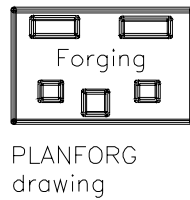
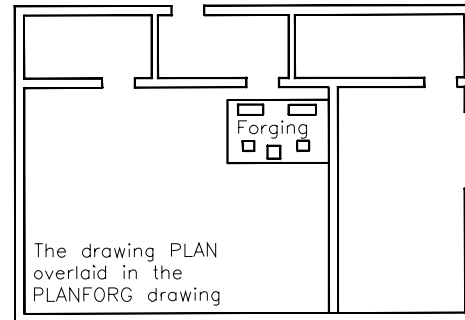

Figure 16-17 The PLANFORG drawing
Figure 16-18 The PLANFORG drawing after overlaying the PLAN drawing
3. Open the drawing **PLANFORG** (Figure 16-17) and select the **Overlay** radio button in the **EXTERNAL REFERENCES** palette, which is displayed after you have selected the **PLAN** drawing to reference. The **PLAN** drawing is overlaid on the **PLANFORG** drawing (Figure 16-18).